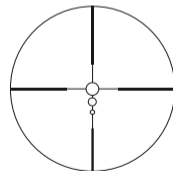

Fig. 3
- 1 Look through the eyepiece with your eye positioned about 4 in. (10 cm) away from the eyepiece to see each reticle (Fig. 3). Be sure your eye is positioned with proper alignment and with proper eye relief, otherwise the view will “black out.”